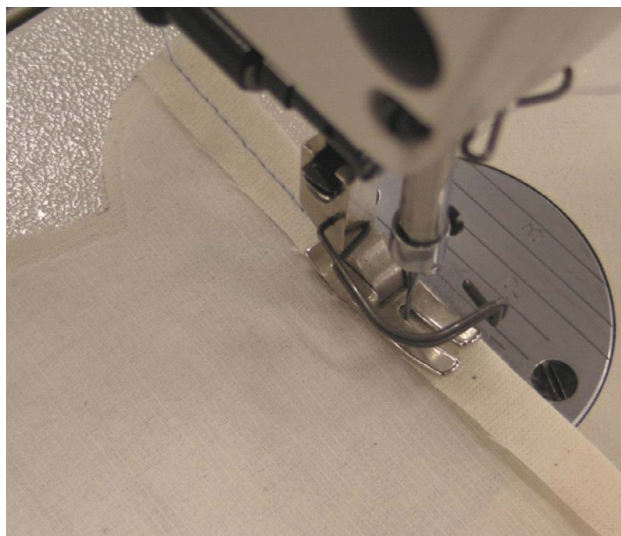

Figure 27
2. Work with the wrong side of the top collar, turn the bottom edge over the interlining and stitch with the Lockstitch (301) using a 5mm seam width (see Figure 27).